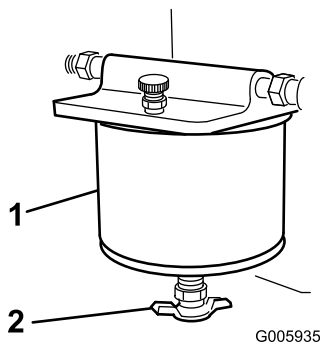

Figure 31
4. Turn the drain valve until the water runs out of the filter (Figure 31).